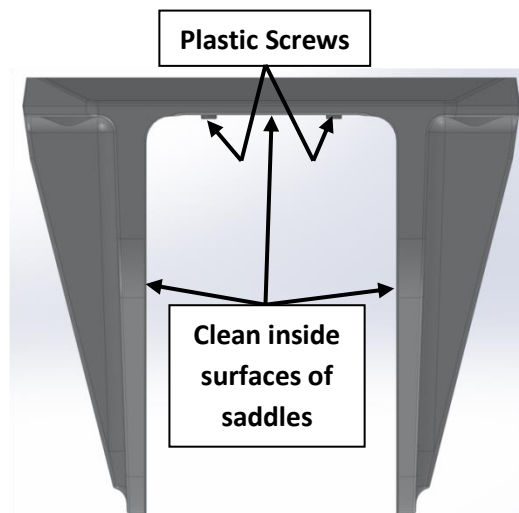

FIGURE 13 - SADDLE CLEANING
- 2) Check that each saddle contains 4 plastic screws which will insure an adhesive gap of .080" (2 mm) on top surface of hull as shown in Figure 13.
- 3) Thoroughly clean with alcohol or acetone the inside surfaces of Seakeeper foundation saddles to remove any contaminants as shown in Figure 13. Use new paper towels for cleaning, not shop rags.